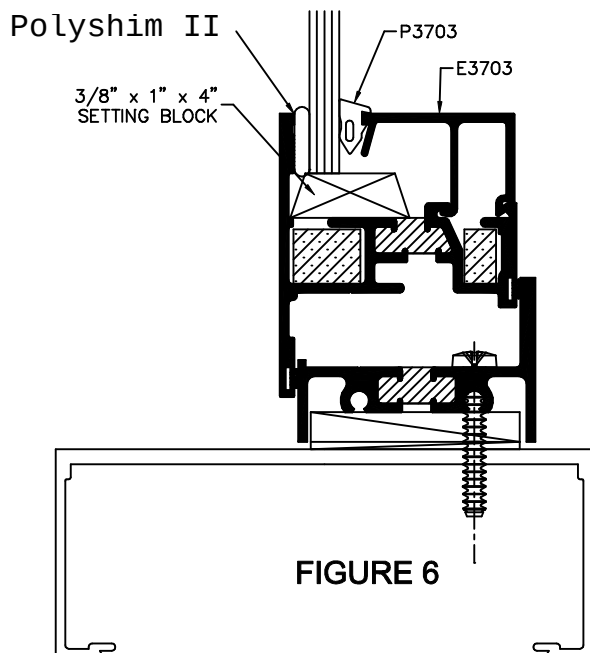

FIGURE 6
- B. USE E3703 FOR $1/4"$ GLAZING (SEE FIGURE 6).
4. APPLY CONTINUOUS FILLET BEAD AT PERIMETER, USING SKINNING TYPE SEALANT (SEE FIGURE 6).